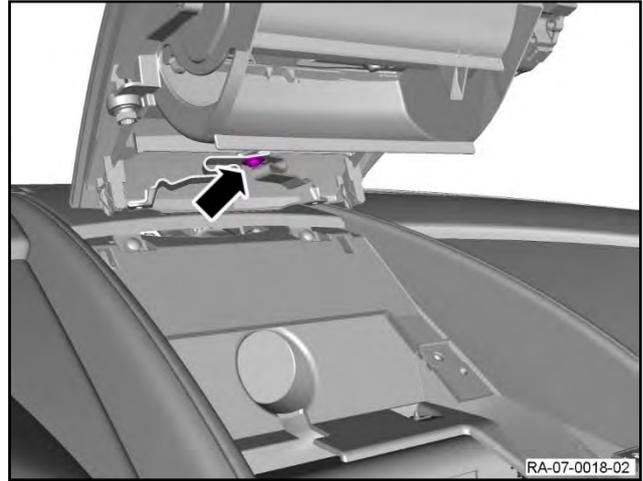

Figure 31
40. Remove the screw that attaches the two tethers to the veneer bezel (refer to Figure 31).